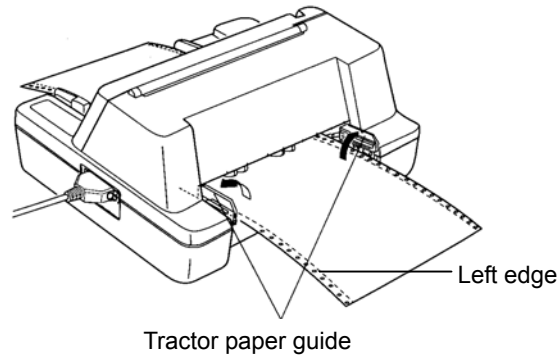

Figure 3-7 Setting tractor paper into the tractor
- 4 Open the tractor paper guide and place the paper on the sprocket pins as shown in Figure 3-7, then close the paper guide. If you are using preprinted paper or labels, install them with the printed or labeled side facing upwards.